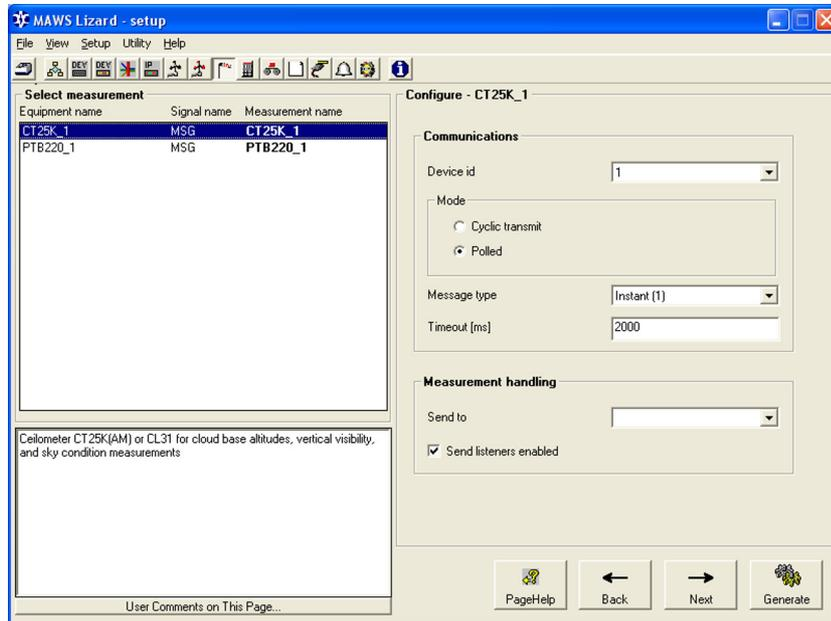

Figure 63 Measurements View: Configuring Serial Sensor Interface
4. Proceed to the **Measurements** view to configure the sensor interface as shown in Figure 63 on page 116.